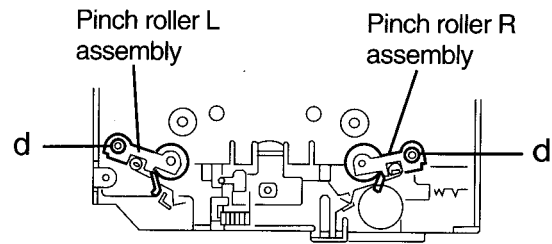

Fig. 5
■ **Removing the Pinch Roller Assembly (See Fig. 5,6)**